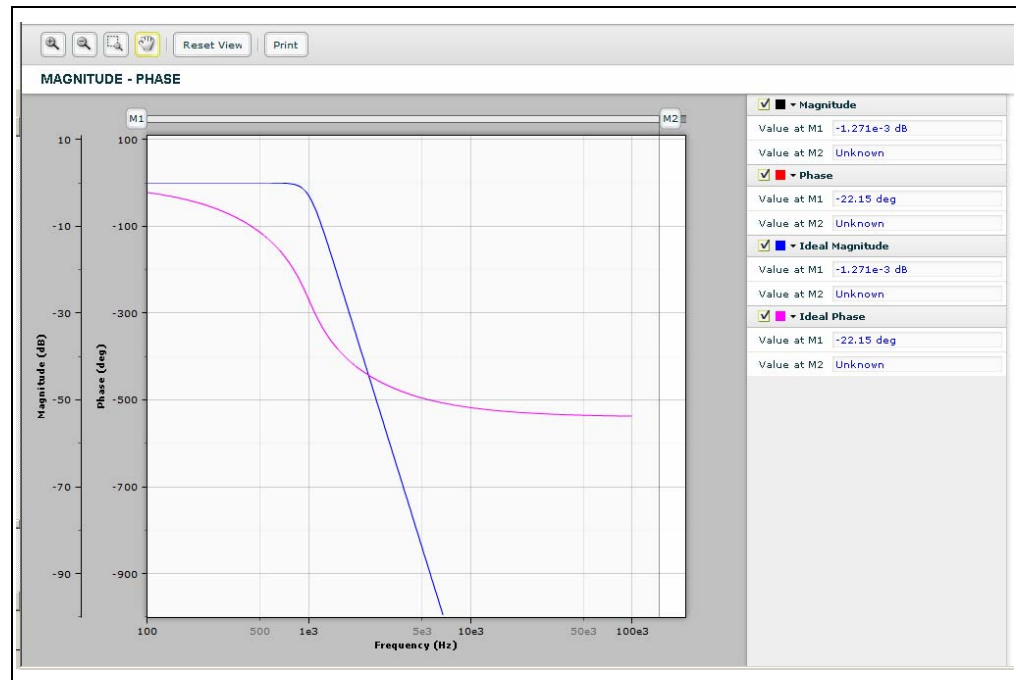

FIGURE B-1: Magnitude - Phase Response.
- Maximally-flat-magnitude-response filters, optimized for gain flatness in the Pass-band. Above the pass-band frequency the attenuation is -20 dB/decade/order (Figure B-1)
The magnitude - phase response of the 6th order Low-pass filters with Butterworth approximation is shown in Figure B-1.